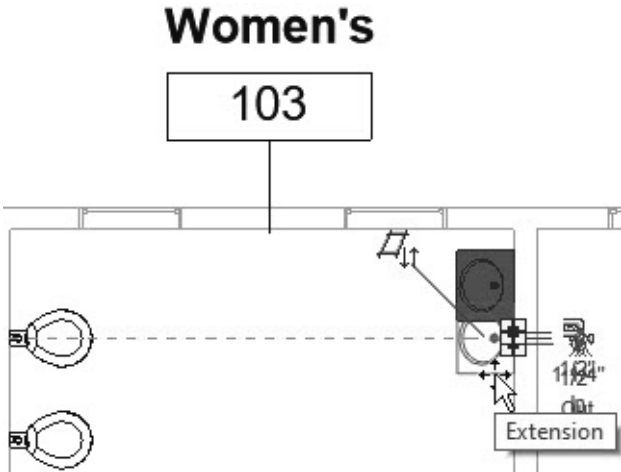

Figure 2-89
- 16. Click  (Modify). Zoom in to the Women's restroom and select and drag the lavatory into place so it aligns with the water closet, as shown in Figure 2-89.